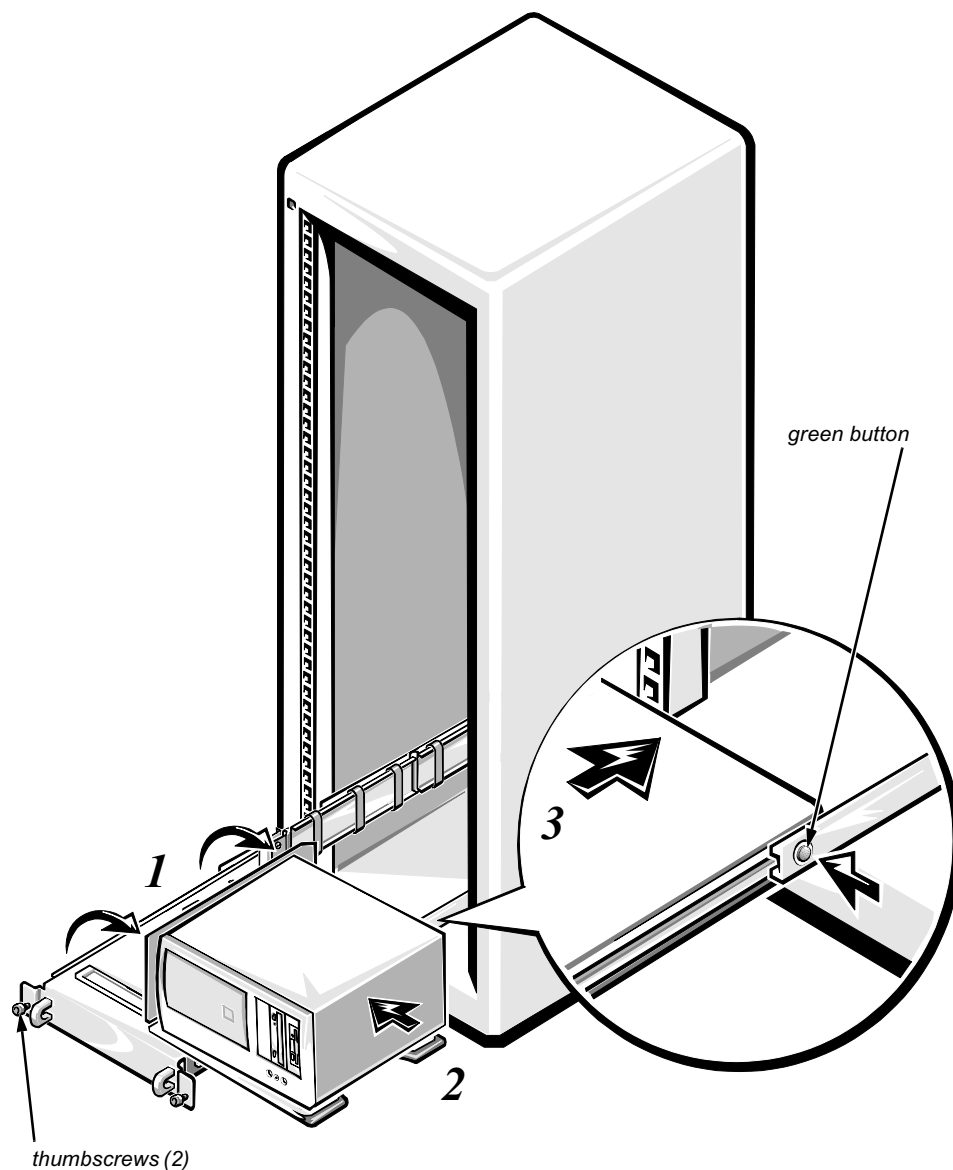

Figure 14. Loading the Computer Into the Rack
8. Carefully rotate the computer to a horizontal position on the transverse tray (see Figure 14, step 1).
9. Slide the transverse tray to the left until it reaches its limit of travel (Figure 14, step 2).
10. Slide the main tray back into the rack (see Figure 14, step 3).